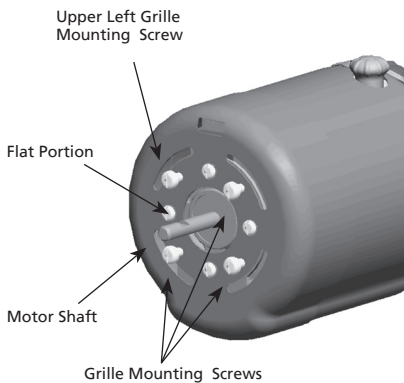

FIGURE 7
18. Remove the upper left Grille Mounting Screw from the Motor Face. See Figure 7.